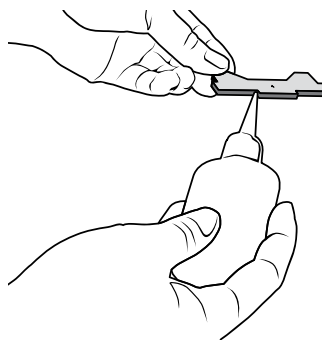
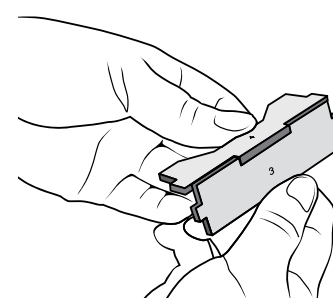

Figure 6
Figure 7
- Locate the deck (Part 4) and the deck brace (Part 3). Apply a bead of glue along the inset edges of Part 4 (Figure 6). Then insert the tab of Part 4 at a 90-degree angle into the slot of Part 3 (Figure 7). Hold the assembly in place until the glue dries.